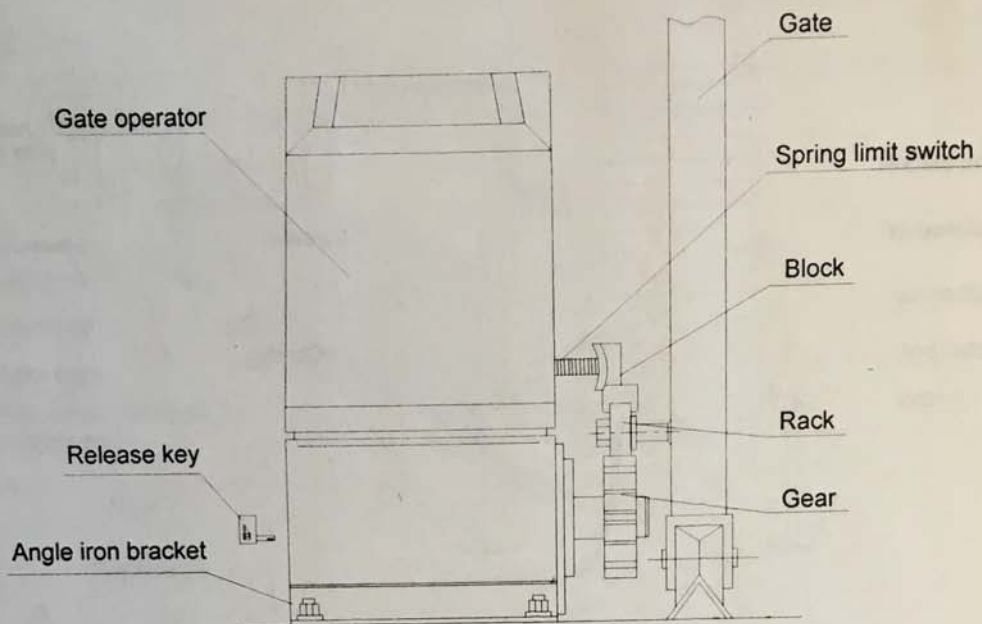
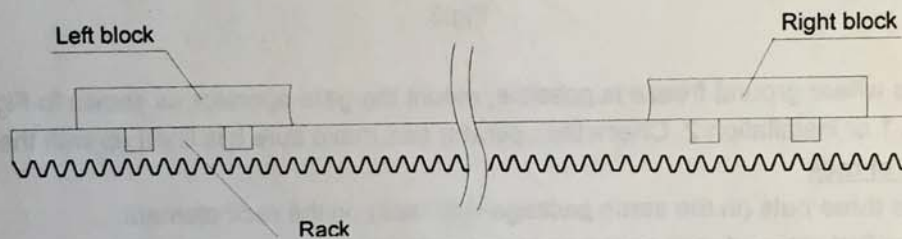

Fig.5
Fig.6
Limit switch (see Fig.5 and Fig.6)
- Install the block as shown in Fig.5 and Fig.6. The spring limit switch and blocks are used to control the position of the gate.